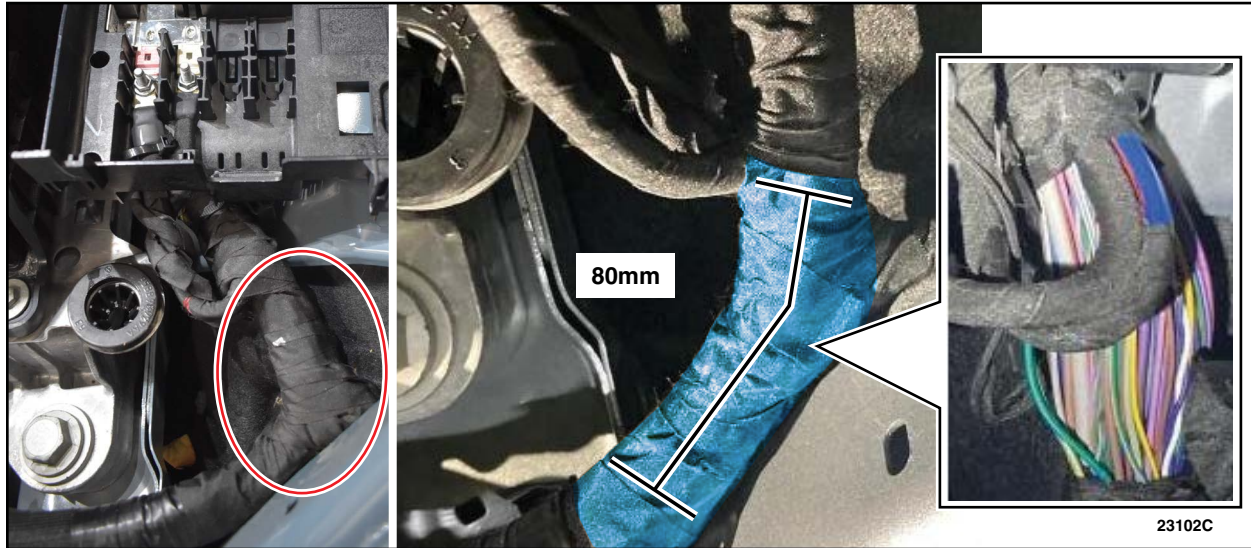

FIGURE 3
5. Once the harness branch is identified, as in Figure 3 below, strip back wire covering for 80 mm, in order to access the wires.